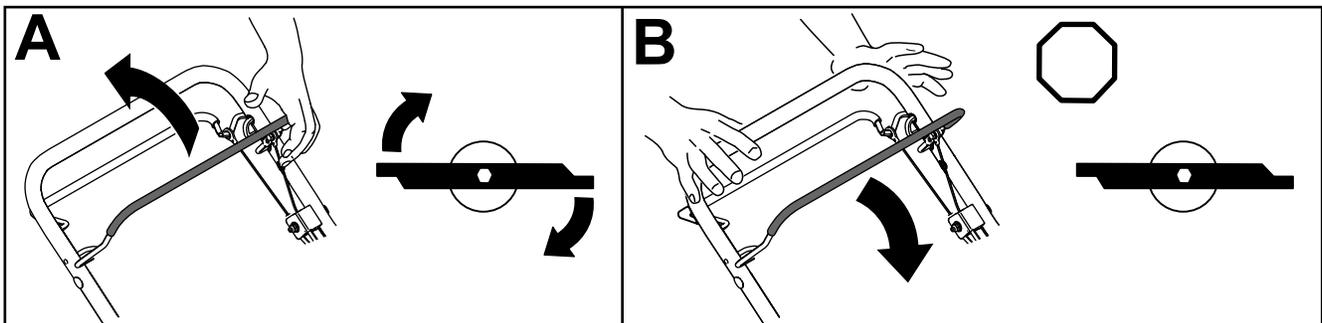

Figure 15
- To engage the blades, pull the blade-control bar to the handle (Figure 15).
- To disengage the blades, release the blade-control bar (Figure 15).